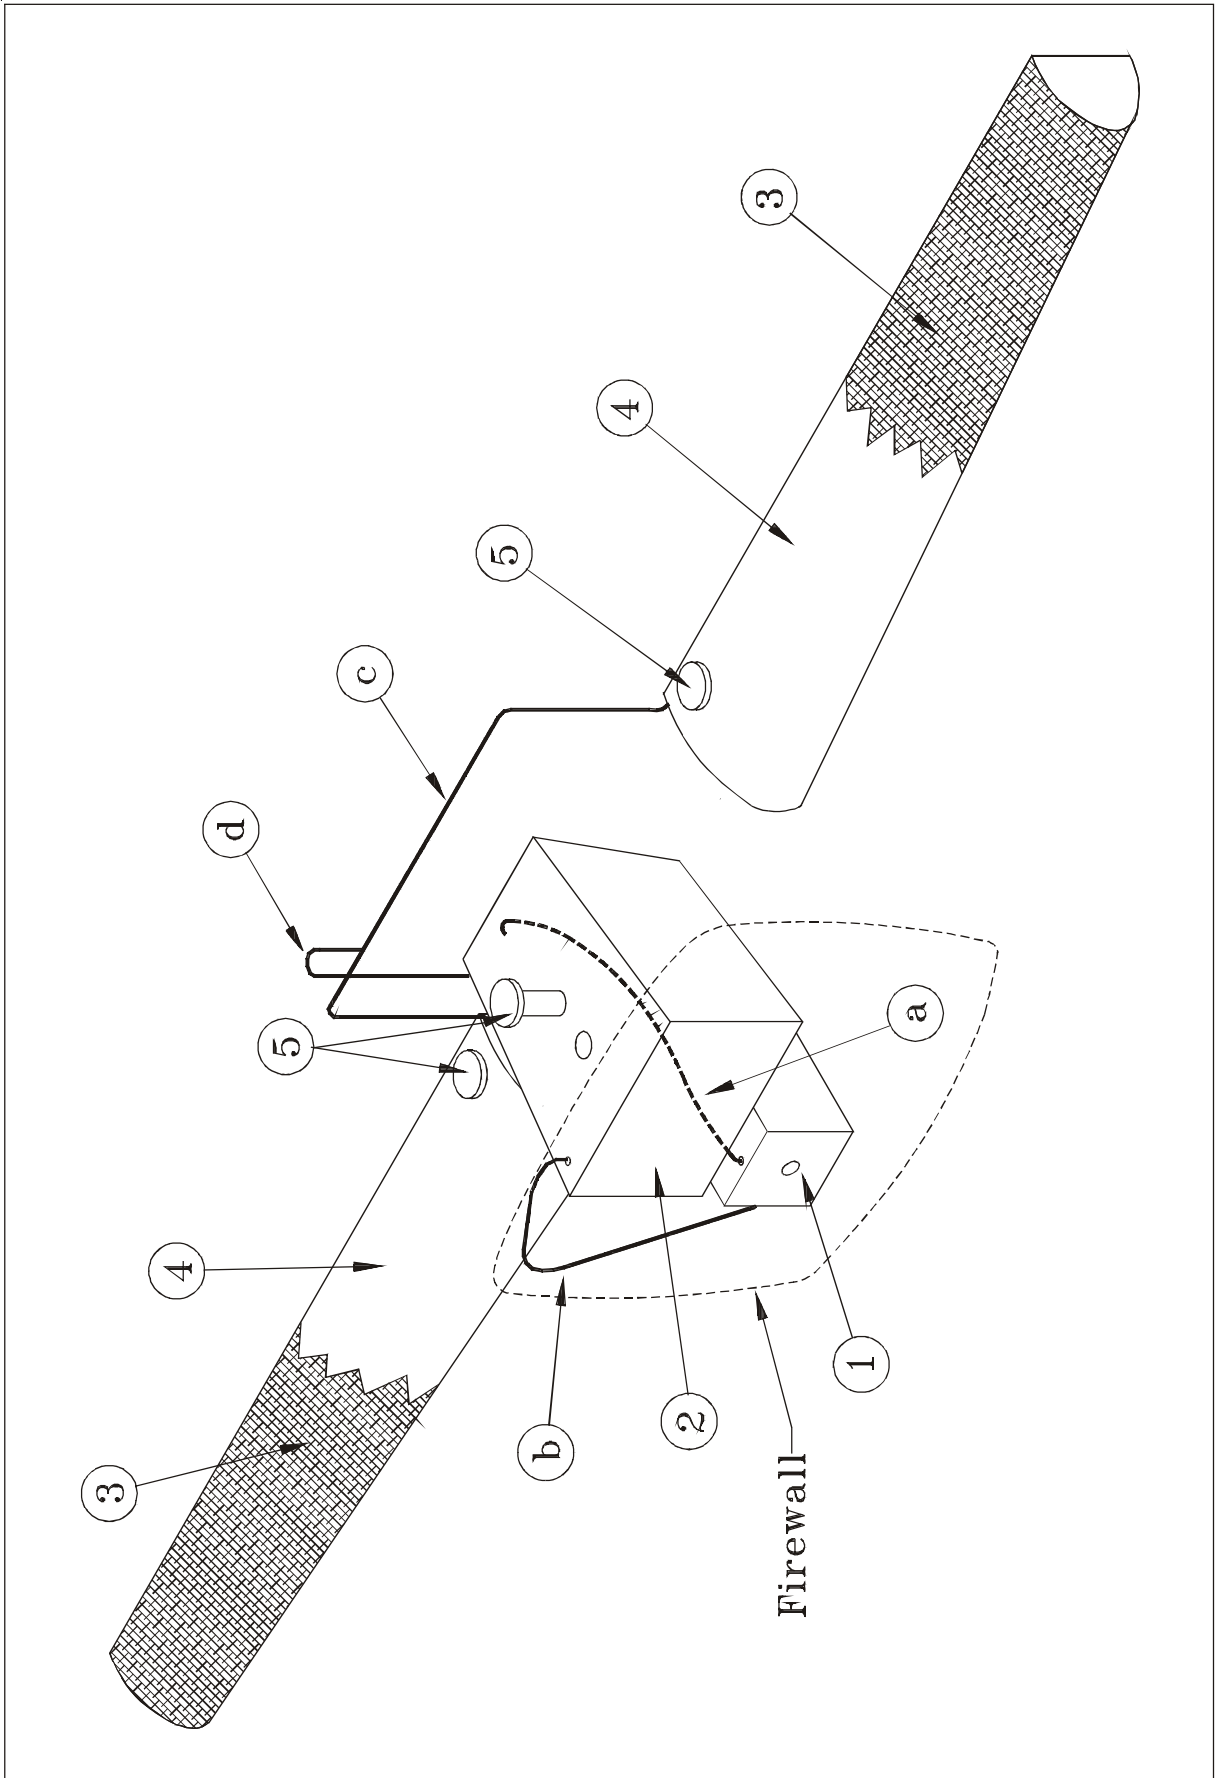

Figure 2
On the rear instrument panel one fuel quantity indicator for the center tank and one for the wing tanks (refer to chapter 31, figure 2) as well as the boost pump switch and circuit breaker are installed.
The acro tank (1, figure 2) incorporating an inverted flight fuel supply system is mounted in the fuselage just behind the firewall. It is connected by a flexible hose to the center tank (2) which is mounted in front of the main spar area. Fueling the center and acro tank is done by means of the fuselage 2" diameter filler cap (5). For leak detection purposes the center and the acro tank are furnished with a GRP tank shell. In case of leakage blue colored fuel is shining through. The center and the acro tank are electrically bonded. The acro tank deaerates (a) into the center tank that itself deaerates by a ventilation tube (b) ending at the right side of the main landing gear spring.